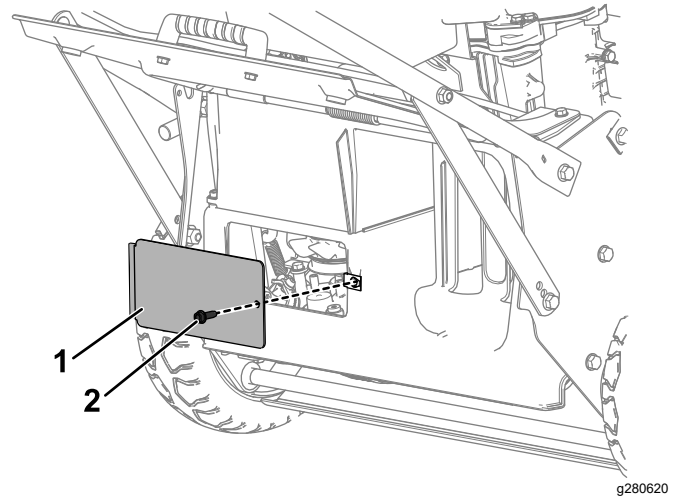

Figure 47
8. Remove the rear-viewing window, located under the rear-discharge deflector, by removing the bolt holding it in place (Figure 47).